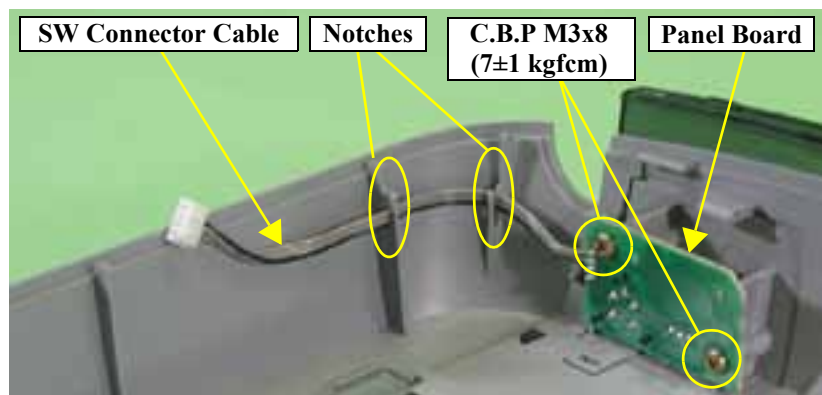

Figure 4-10. Removal of Panel Board
- Route the SW Connector Cable by passing it through the notches of the Upper Housing as shown in Figure 4-10.